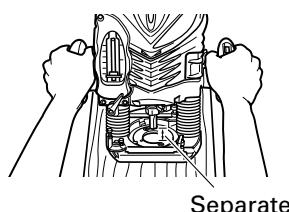

Fig. 19
(1) As shown in Fig. 19, remove the bit from the work pieces and press the switch lever up to the ON position. Do not start cutting operation until the bit has reached full rotating speed.